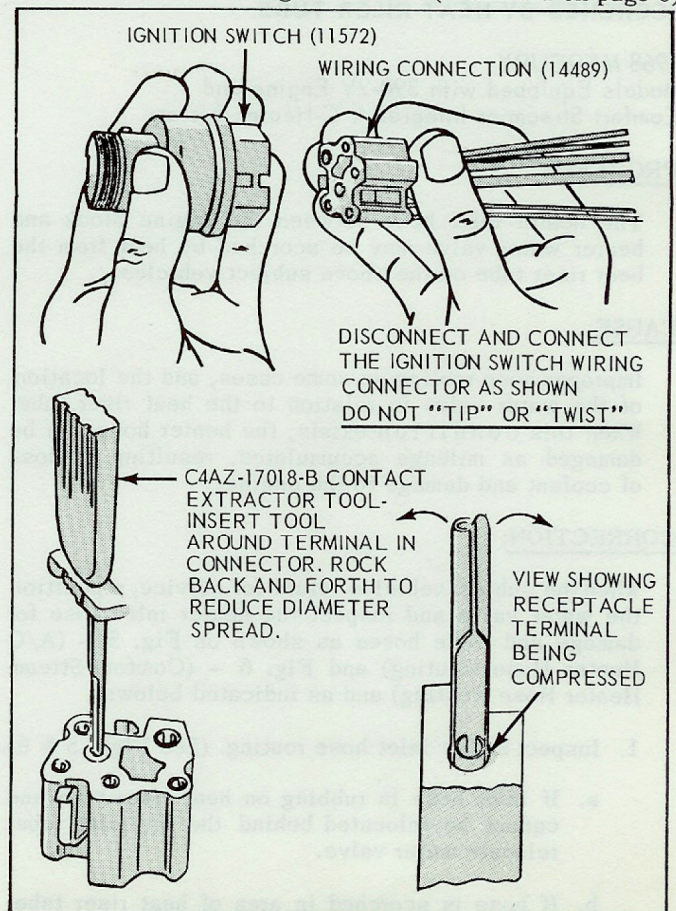

Fig. 4 - Erratic Ignition Switch Operation 9025A
2. Disconnect the wiring connector from the ignition switch. Do not "tip" or "twist" the wiring connector, as this can spread the receptacle terminals in the connector. The connector must be removed on a straight line from the ignition switch as illustrated on Fig. 4. (continued on page 6)